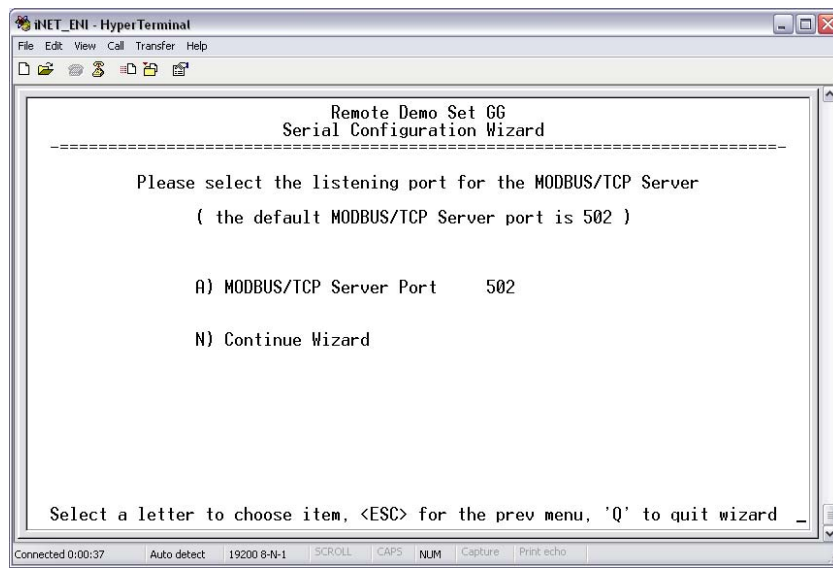

Figure A-12. MODBUS/TCP Server Listening Port
1. Press **A** to select the listening port for the MODBUS/TCP server. See Figure A-12. The default is port **502**. Then press **N** to continue.